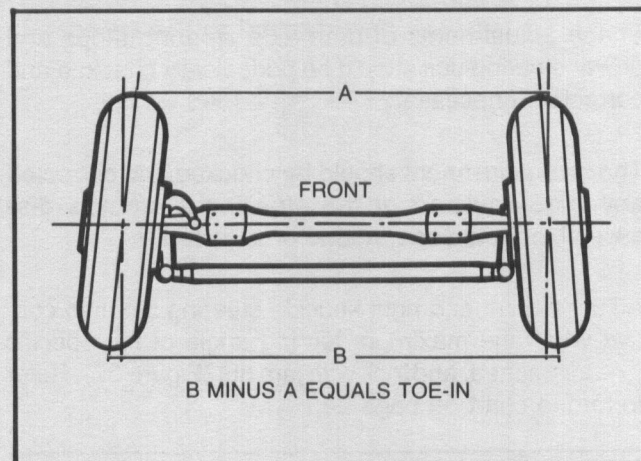

Figure 41
G. Read toe-in (or toe-out) from scale (Figure 41).
Toe-in (or toe-out) is the difference between the measurement taken at the front and rear of the tires (Figure 41).